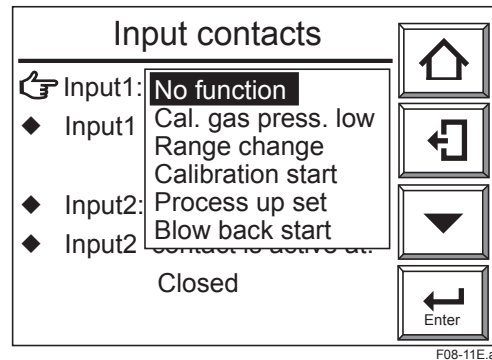

Figure 8.11 “Input Contacts” Display
- 4) Select “Input 1” . Function Selection window (Fig 8.11) appears.